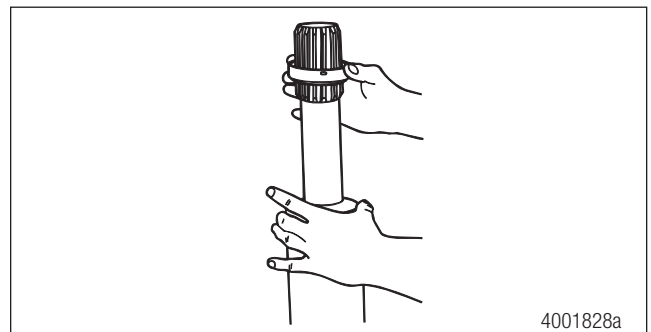

Figure 5.43
3. Install the new shroud. Figure 5.43.